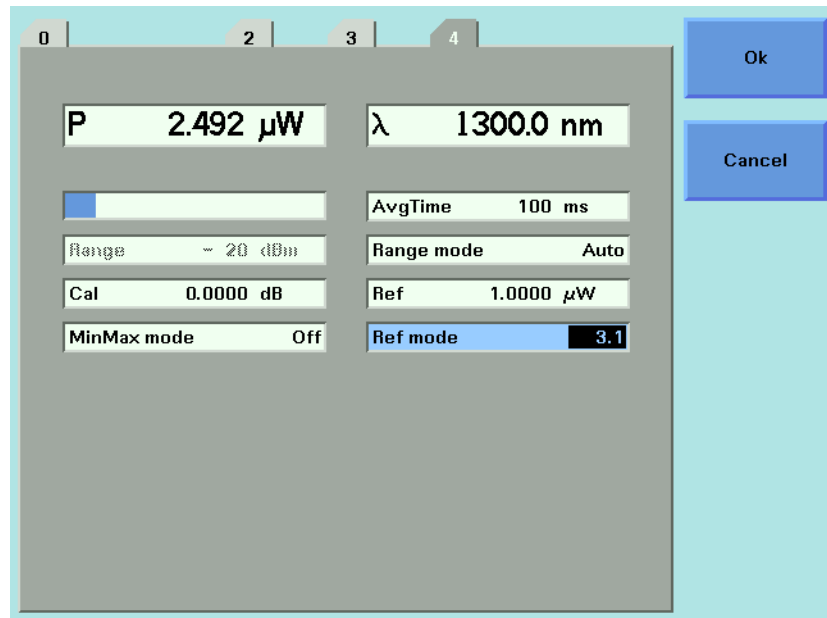

Figure 58 Referencing Another Channel
- 3 Move to the channel number you want to reference, using the cursor key, and press Enter. For example, in Figure 58 on page -105, you could choose 3.1 (for channel 3.1). Refer to Slot and Channel Numbers on page 39 for information on channel numbers.